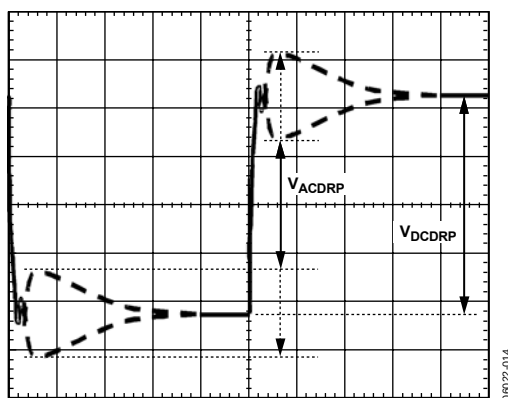

Figure 14. AC Load Line Waveform
14. Measure the output waveform (if not visible, use dc offset on scope to view). Try to use a vertical scale of 100 mV/div or finer. This waveform should look similar to Figure 14.
15. Use the horizontal cursors to measure  $V_{ACDRP}$  and  $V_{DCDRP}$ , as shown in Figure 14. Do not measure the undershoot or overshoot that happens immediately after this step.